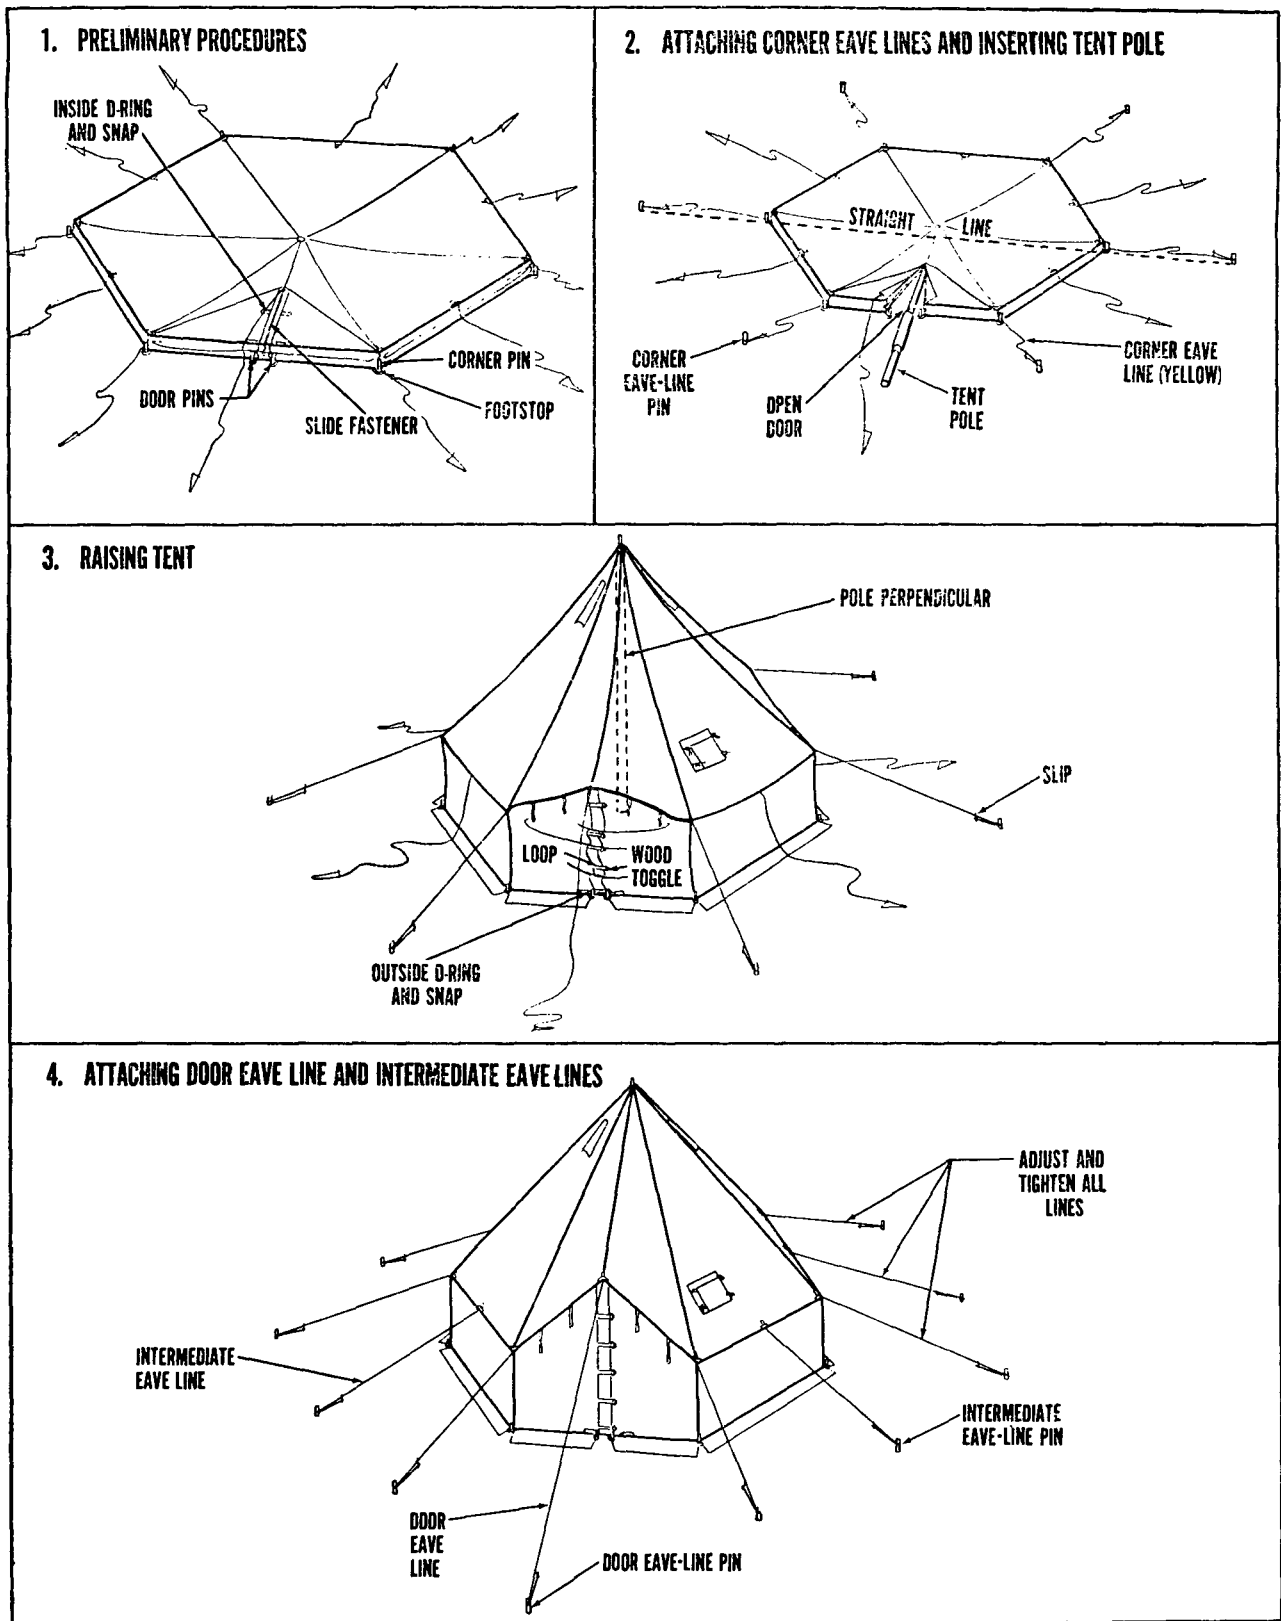

Figure 37. Steps in pitching tent, hexagonal, lightweight, M-1950.
(1) *Preliminary procedures* (1, fig 37).
(2) *Attaching corner eave lines and inserting tent pole* (2, fig 37).
(3) *Raising tent* (3, fig 37).
(4) *Attaching door eave line and intermediate eave lines* (4, fig 37).